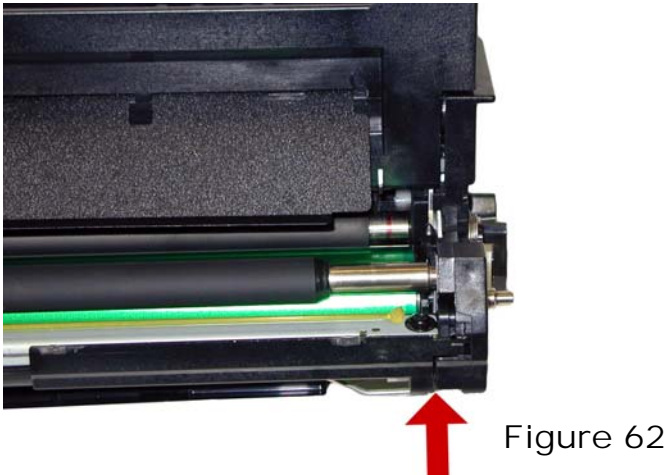

Figure 62
40) Install the right side end cap the rest of the way. Make sure it seats properly. See **Figure 62**